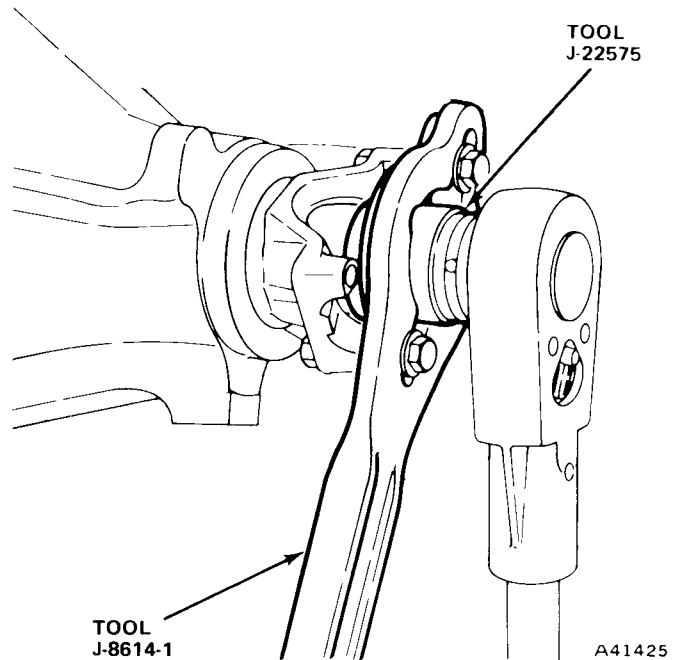

Fig. 10-37 Removing Pinion Nut
- (1) Remove pinion nut using Tool J-8614-1 or J-8614-10 and Nut Socket Tool J-22575 (fig. 10-37).